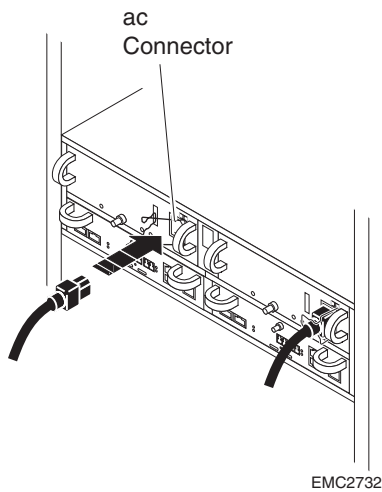

Figure 3-16 Plugging in the Power Cord
3. Make sure any power switch on the replacement module is off before you plug the ac/dc power cord into the new supply. On ac modules, attach the wire retention bail for strain relief (see Figure 3-16). Turn a power switch to the on position after you plug in the power cord.